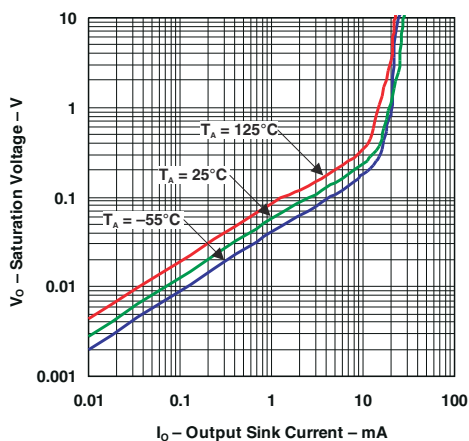

图 7-35. Output Saturation Voltage
- R_{CE} can be determined by taking the slope of 图 7-35 in its linear region at the desired temperature, or by dividing the V_{OL} by I_{OUT}